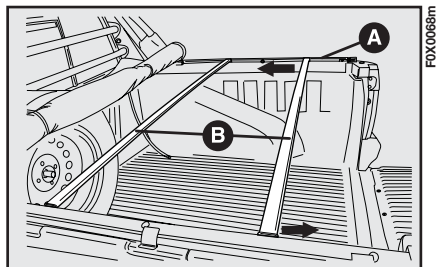

fig. 87
- loosen the screws of the positioning blocks A-fig. 87 (2 per side) then slide the two crosspieces B along the grooves in the body to the desired position;